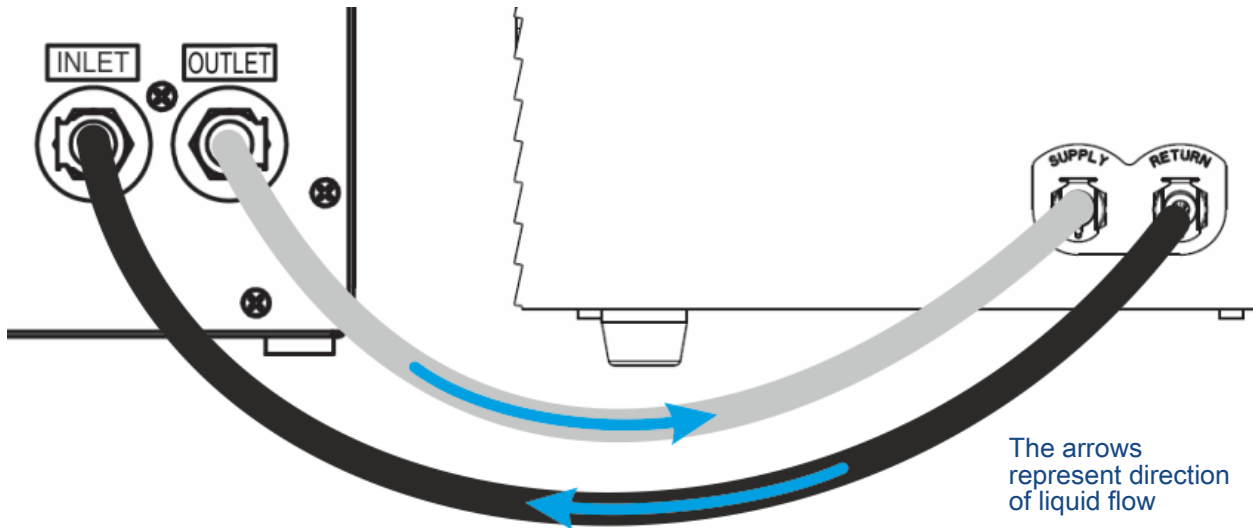

Figure 102: Connections between the integrated cooling module and the external liquid cooling device
- Connect the coolant OUTLET of the liquid supply of the external liquid cooling device to the instrument's SUPPLY port on the back of the integrated cooling module. Use the provided tube. (See figure below and Figure 102).